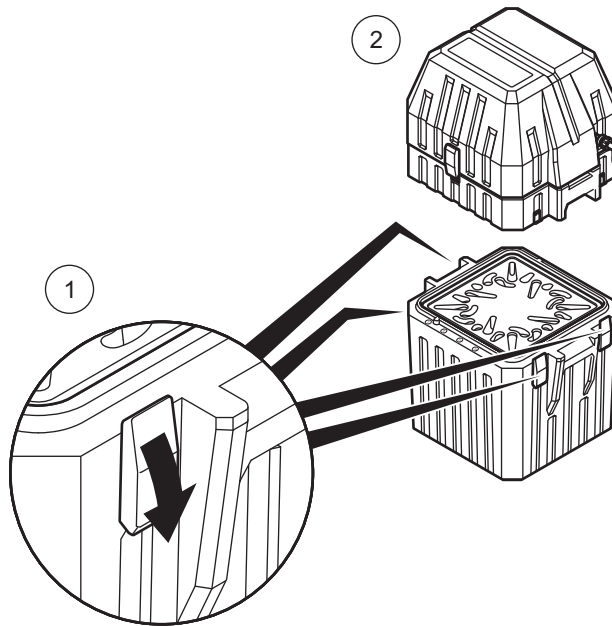

Figure 30 Remove the top part of the housing (2000)
2. Remove the top part as shown in the illustrations Figure 29, Page 27 and Figure 30, Page 28.